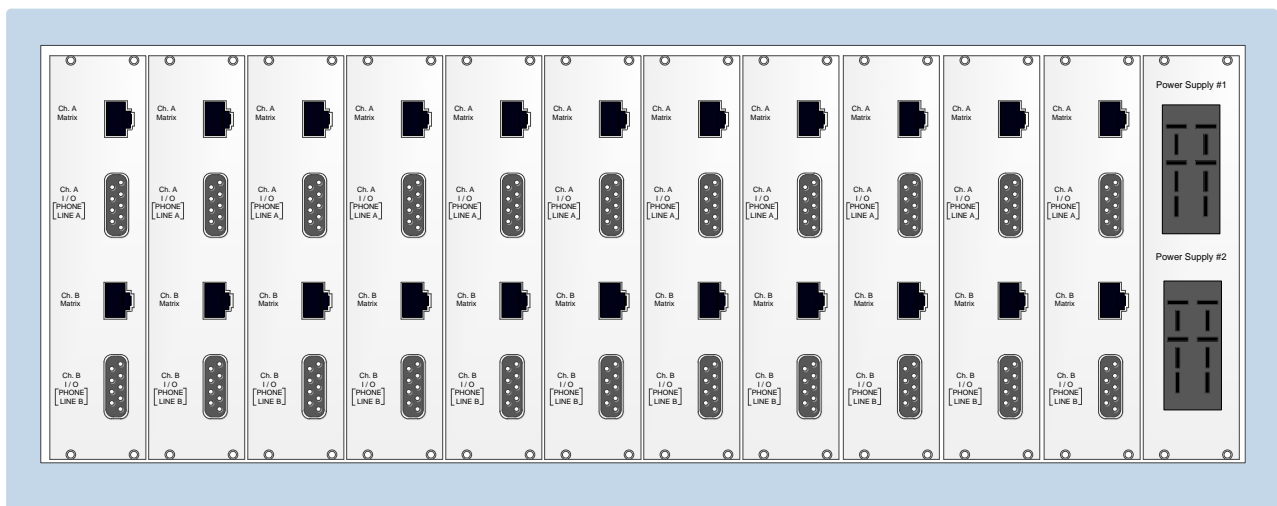

Figure 5: IMF-3 rear panel
- Two DB-9 connectors for connecting cable to non-four-wire devices (see **Figure 5: IMF-3 rear panel**).